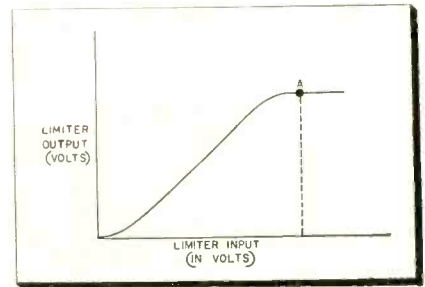
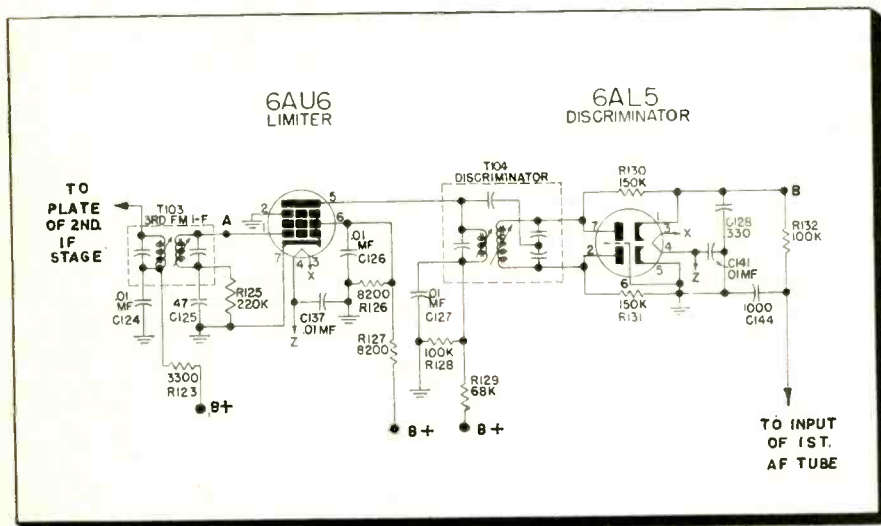

Fig. 2—Characteristic curve showing how output of limiter changes with input.
Fig. 1—Typical limiter circuit and discriminator.
To check the limiter stage, connect a suitable signal generator to point A, Fig. 1. Its frequency should be the center IF or resting frequency. Attenuate the generator output to a small value. Connect the negative DC input of the VTVM between the half-load point of the discriminator and ground. Increase the output of the signal generator slowly. If the limiter stage is functioning normally, the second is that the signal gen-
To check the discriminator, connect the VTVM between point B (Fig. 1) and ground; the signal generator is applied between limiter grid and ground. The needle of the VTVM is set to center zero, if the meter provides for such an adjustment. (Continued on page 70)
A typical limiter circuit is shown in Fig. 1. Fig. 2 shows limiter input plotted against limiter output. Note that when the knee of the curve (point A of Fig. 2) has been
the VTVM will continue to indicate upscale until the knee of the curve (point A, Fig. 2) has been reached. Saturation will then occur, and the VTVM will register no further increase in voltage.
Fig. 1—Enlarged point-contact transistor. The base connection is made to a large-surface crystal area. The emitter and collector wires touch the other large-surface area.
group contains a germanium pellet, usually of *N-type* material, with three electrical contacts made to it. The largest contact is called the base contact; this contact touches the pellet along its large surface (see Fig. 1). The other two contacts are made to the surface opposite the base contact area; they are composed of cat-whisker wires whose points just touch the germanium and are spaced about 1/500-in. apart. One of these wires is called the *emitter*, the other is called the *collector*. The three contacts are firmly positioned and the unit is sealed in a plastic.
In the most elementary point-contact transistor amplifier circuit, the emitter and base connections are made to a DC source in series with the input signal (Fig. 2). The DC minus terminal is connected to the transistor base terminal; the DC plus goes through the signal source, to the emitter terminal. The emitter appears to produce holes in the germanium at the wire contact point. These holes act like positive charges and drift across the small distance to the collector, attracted by the negative voltage (electron
Fig. 2—Enlarged point-contact transistor: If a signal injects 1 million holes at emitter, they will be attracted towards collector (1). Near collector, holes reduce barrier to electron flow (2) allowing some 2.5 million electrons to pass into crystal. Of these, 1 million neutralize the holes; the others flow to base (3).
around the collector contact point, and a heavy electron flow in the collector circuit results (see Fig. 2).